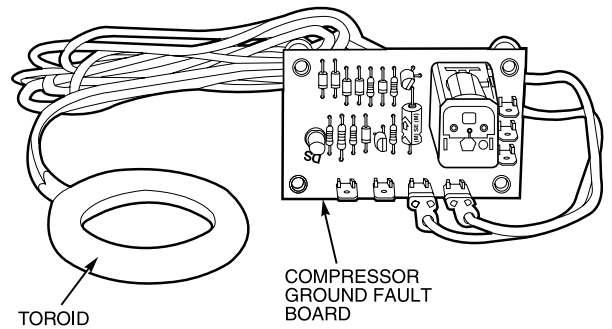

Fig. 14 — Compressor Ground Fault Module — Sizes 130-210
Compressor Ground Current Protection Board (CGF) and Control Relay (CR) — The 30GTN,R and 30GUN,R 130-210, and associated modular units (see Table 1) contain one compressor ground current protection board (CGF) (see Fig. 14) for each refrigeration circuit. The CGF contains logic that can detect if the current-to-ground